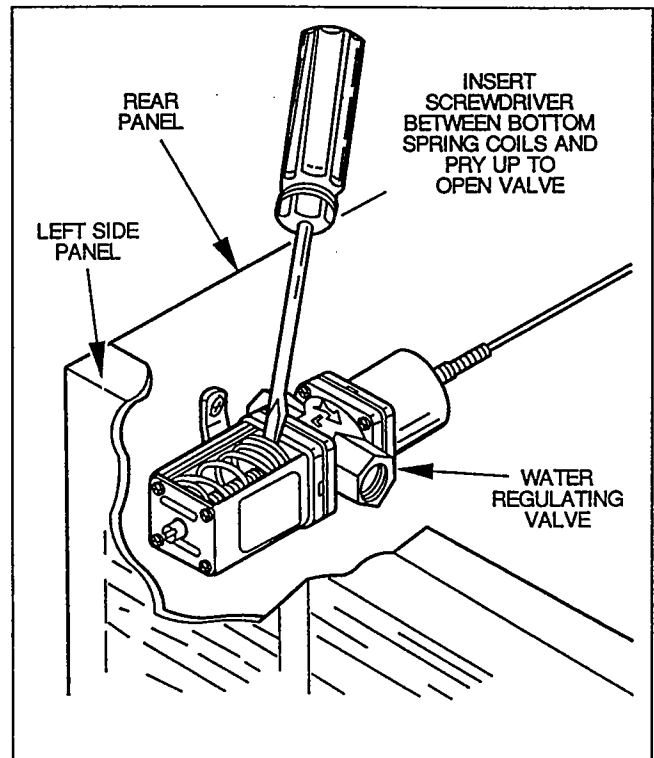

FIGURE 21. MANUALLY OPEN WATER REGULATING VALVE
3. Pry open water regulating valve by inserting large standard screwdriver between bottom spring coils of valve. Pry spring upward to open valve, Figure 21.